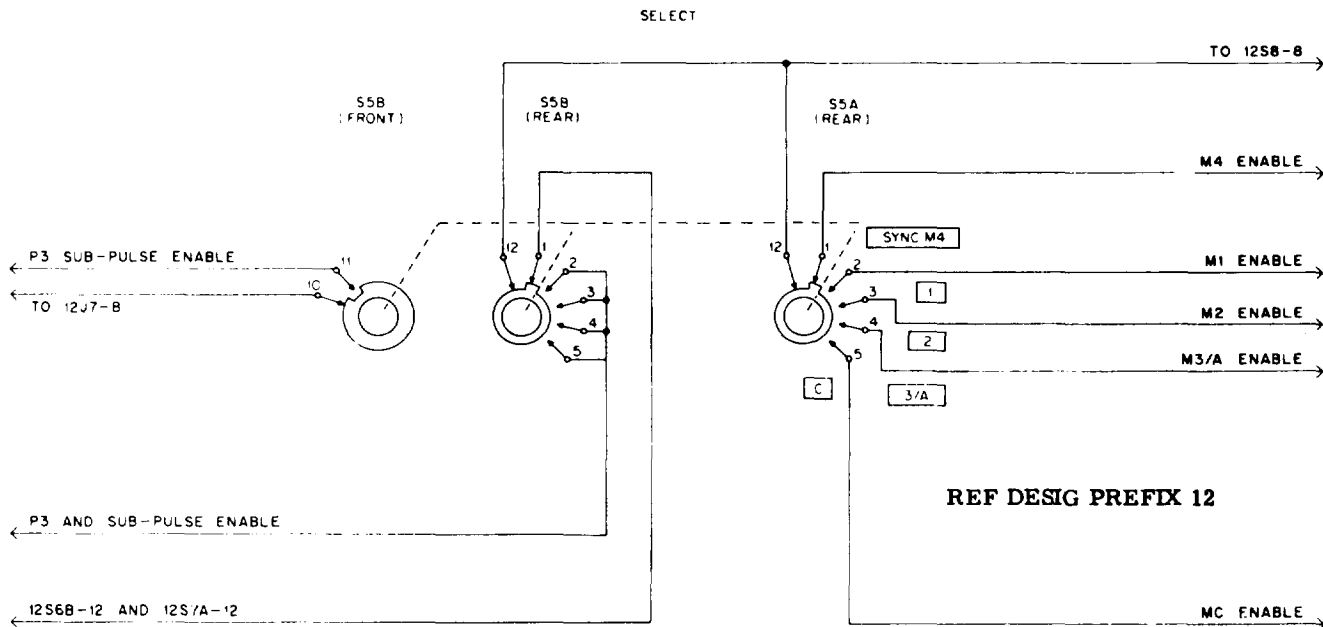

Figure 4-22. Mode Selector Control Circuits, Simplified Schematic Diagram
2. MODE SELECTOR 12S5.- This switch (figure 4-22) distributes +12 volt enabling potentials to appropriate switch diodes in Matrix Assembly 12A3, and to the sub pulse circuits in Clock and Recycle Assembly 12A1